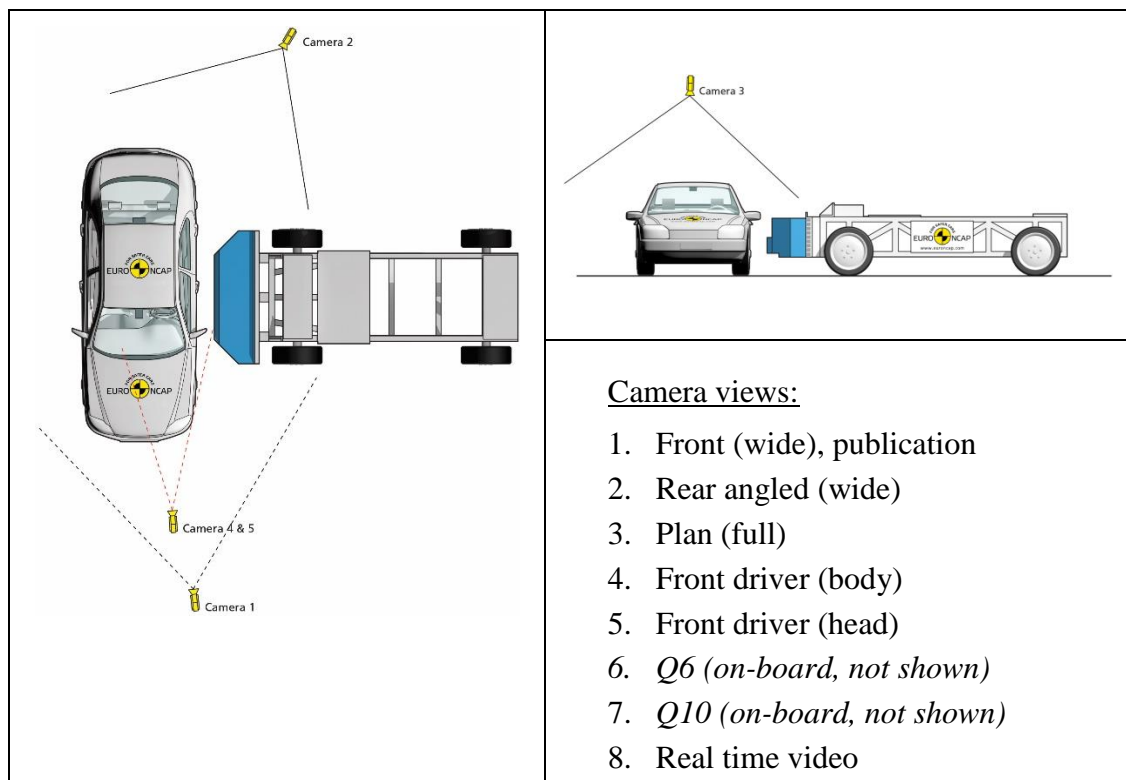

Figure 5: Locations for Cameras 1 to 5 (Side Moving Deformable Barrier).
A minimum of 5 cameras should be installed around the test vehicle, positioned as indicated in Figure 5 below. Two (2) additional on-board cameras to assess child dummy head containment are to be used and also one real time camera.